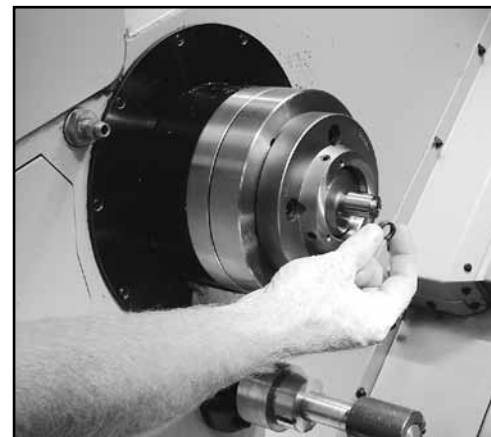

Figure 11 – Emergency Collet Limit Ring
4. Place the **Limit Ring** on the lip of the emergency collet (Figure 11) and press the CLOSE COLLET push-button.
7. Press the COLLET OPEN push-button and remove the **Limit Ring** (Figure 11).